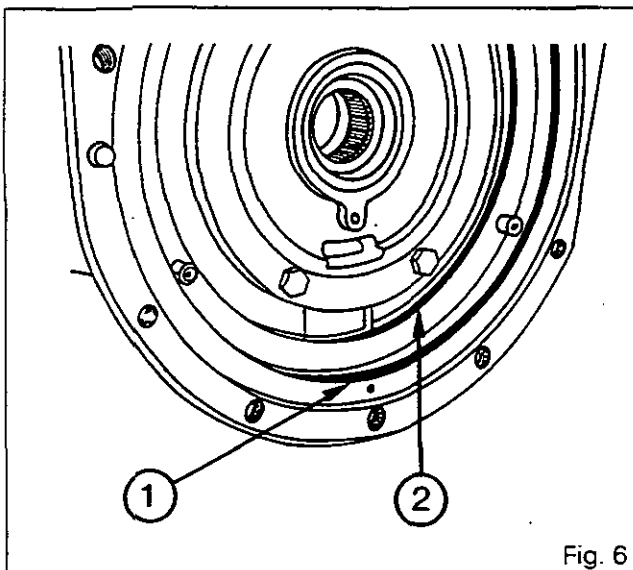

Fig. 6
9. Fit new O-rings (1) and (2) (Fig. 6).